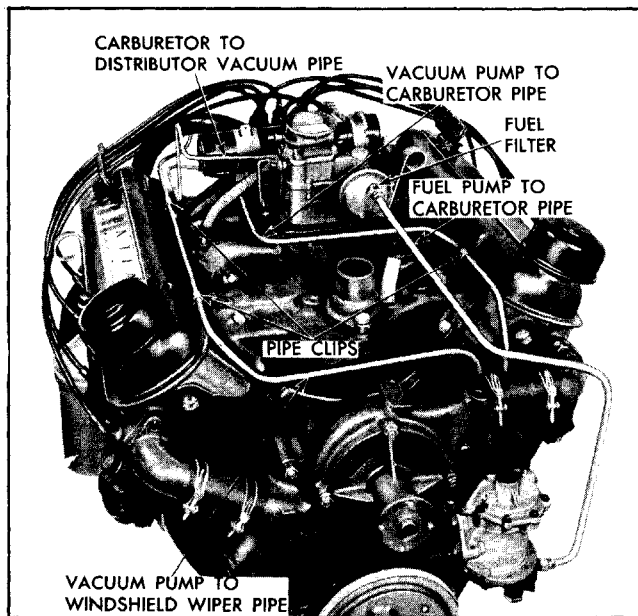

Fig. 6-78 General View of Top of Engine
38. Install fuel and vacuum pipes between carburetor, fuel pump and distributor. Attach pipe clips under rocker arm cover screws as shown in Fig. 6-78 and tighten rocker arm cover screws to 3 lb. ft. torque.
40. Install distributor cap with spark plug and coil wires. Fasten spark plug wire supports to rocker arm covers and connect spark plug wires (Fig. 6-78). Connect coil secondary wire and connect distributor to coil primary wire (connect to negative terminal of coil).